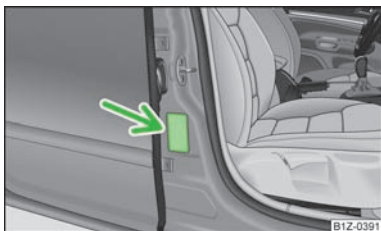

Fig. 124
- This is also clearly stated on the sticker which is located on the B column on the front passenger side » Fig. 124. The sticker is visible upon opening the front passenger door. For some countries, the sticker is also affixed to the sun visor of the front passenger.